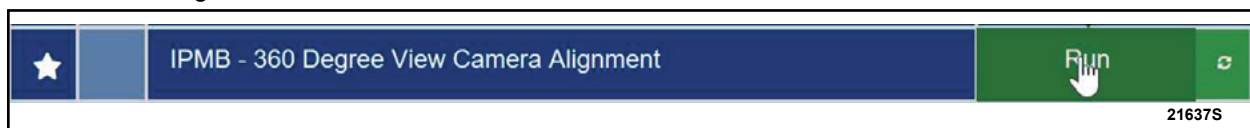

FIGURE 20
- a. From the list on the RH side of the screen, select **IPMB - 360 Degree View Camera Alignment**. See Figure 20.
- b. Click **RUN**. Follow all on-screen instructions carefully. See Figure 20.